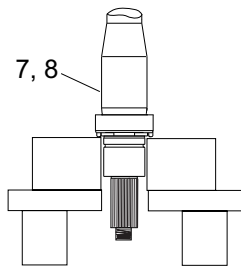

Figure 275 - Grease Shaft
1. Lubricate the front bearing area of the shaft (Figure 275, item 7, 8) with anti-seize. Place it upright in a hydraulic press with the liquid end down.